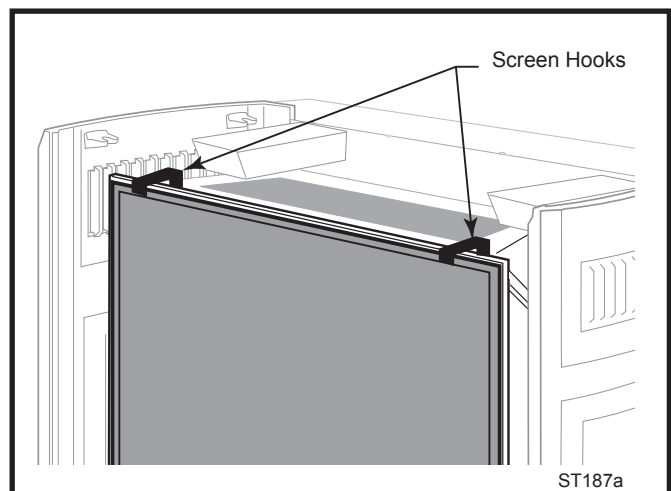

Fig. 5 Lift screen from firebox.
3. Remove the screen frame. (Fig. 5)